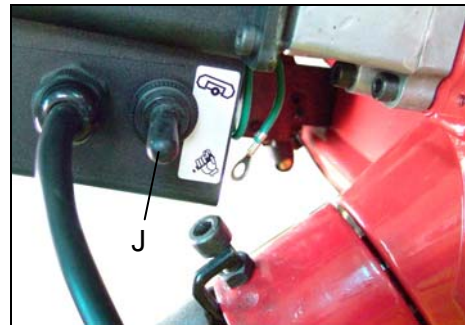

Fig.7
2. Pull up the toggle switch up in (J) Fig.7 to set it in auto-cutting mode.